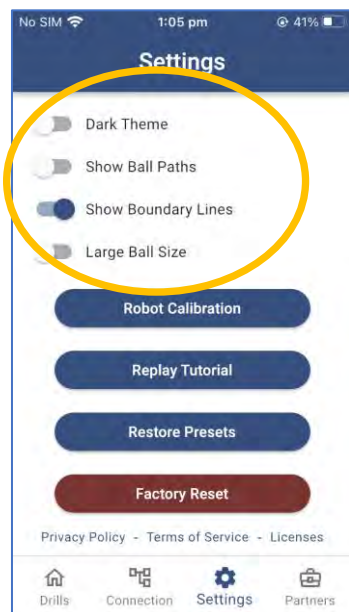

Figure 3-11
The slider settings affect how the screens appear when editing a Drill. See Figures 3-11 through 3-16.
**Theme** – By default, the application will use a “Light” Theme (Figure 3-11) which means the backgrounds of screens will be light in color, with darker text. By turning on the Dark Theme (Figure 3-12), backgrounds will be dark, and text will be light.